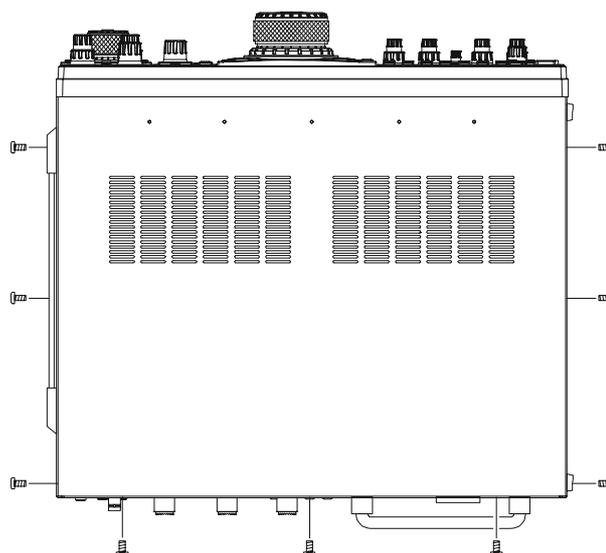

FIGURE 1
3. Referring to Figure 1, remove the three screws from each side of the transceiver, and three screws from the top edge of the rear panel. Slide the top cover toward to the rear about 1/2 inch (1 cm), then remove the top cover.